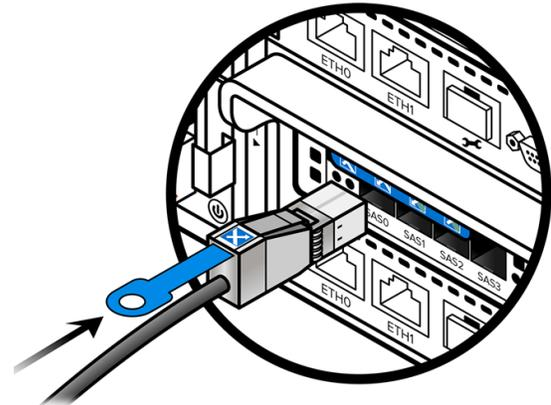
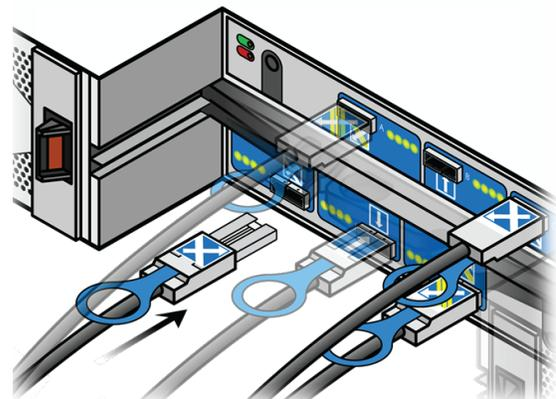

Figure 5-8. Connecting a SAS Cable to a Controller Port
Figure 5-9. Connecting a SAS Cable to an IOM Port
2. Insert each connector into the corresponding port until the connector latches engage. See Figure 5-8 for a connection to a controller port and Figure 5-9 for an IOM port.